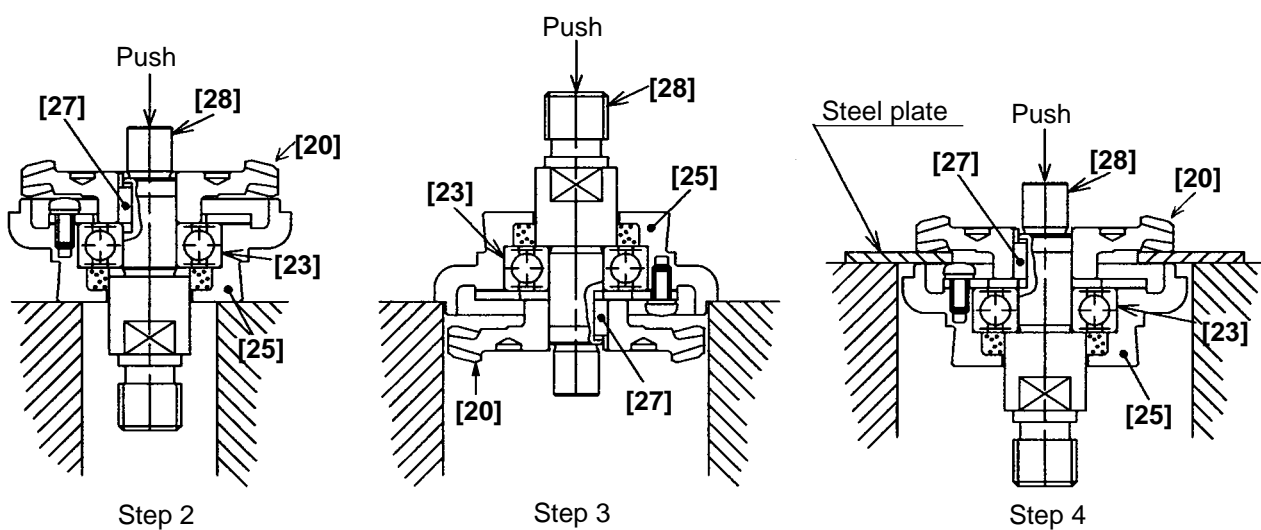

Fig. 6
(4) Disassembly of the gear (Fig. 6)